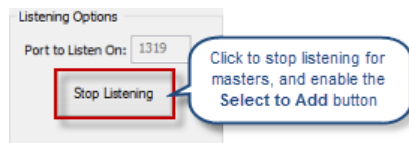

FIG. 135 Listen For Masters dialog - Stop Listening
- When you see the IP Address for the target Master in the *List of Active NetLinX Master Controllers*, click **Stop Listening**. Note that this action enables the *Select To Add* button (FIG. 135).